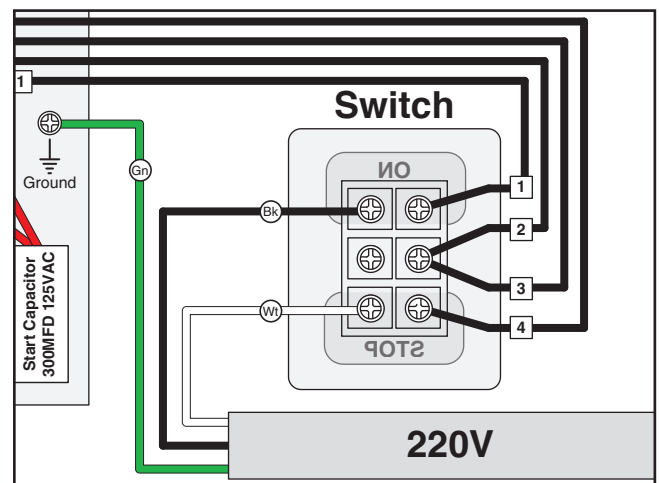

Figure 7. Motor rewired for 220V.
5. Reposition wires 1–4 as shown in **Figure 7**, then tighten the screws loosened in **Step 4**.